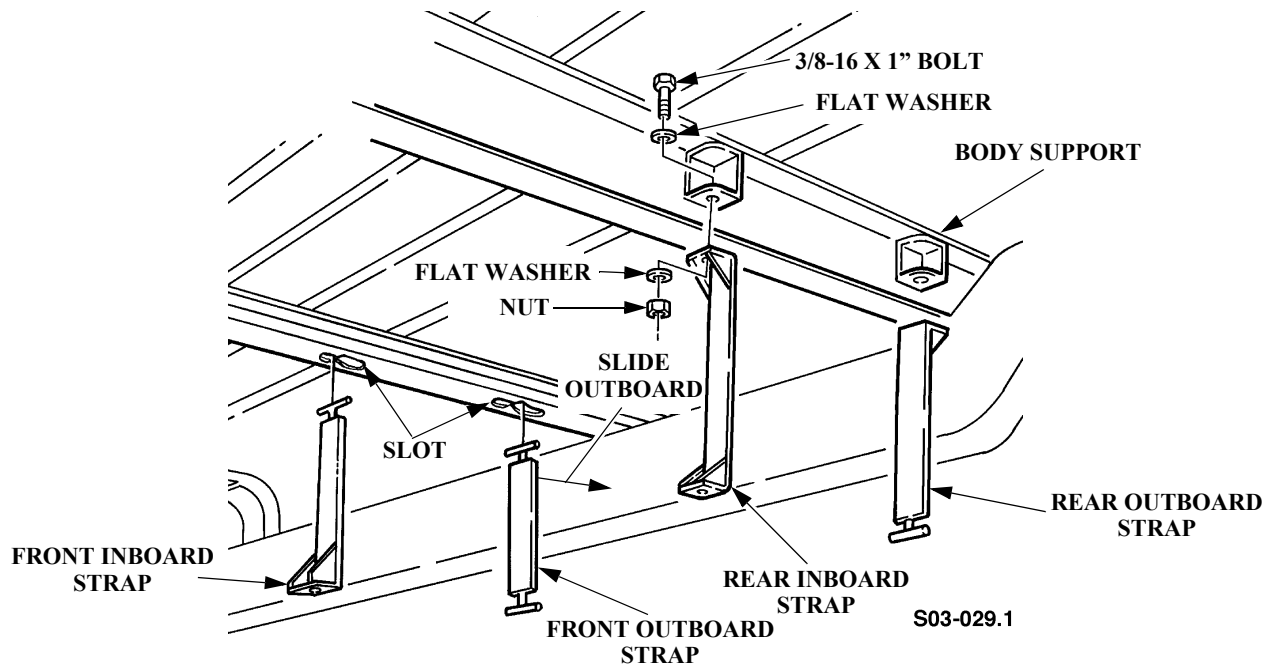

Figure 5: Tank Strap to Body Attachment
30. Install the supplied rear outboard tank support strap to the body structure with the supplied 3/8-16 x 1" bolts, flat washers, and nuts (See Figure 5). Torque the strap to body bolts to 34-40 lb-ft. (47-56 N•m).
41. Install the supplied rear inner tank support strap to the body structure with the supplied 3/8-16 x 1” bolts, flat washers, and nuts (See Figure 5). Torque the strap to body bolts to 34-40 lb-ft. (47-56 N•m).